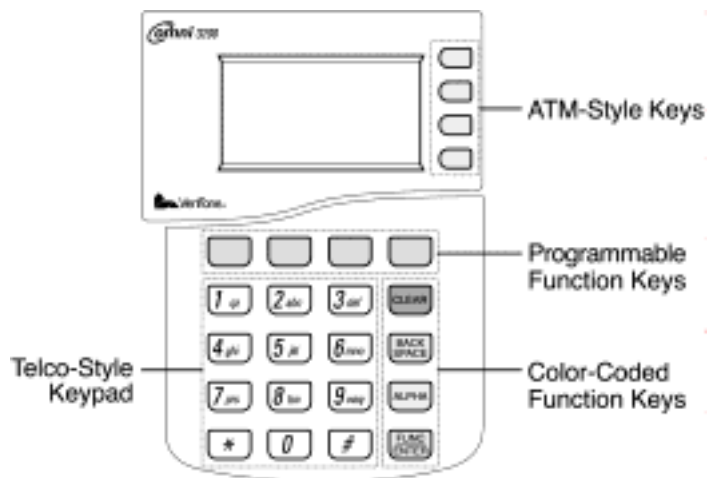

Figure 4 Omni 3200 Keypad and Function Keys
- 24 keys, arranged in groups (see Figure 4):